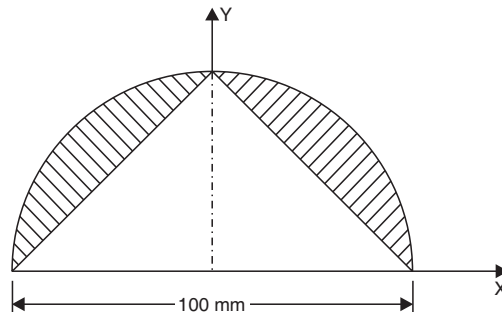

Fig. 4.50
13. A semi-circle of diameter 100 mm is drawn on a paper sheet. A triangle with diameter of the semi-circle as base is cut out of the semi-circle as shown in Fig. 4.50.